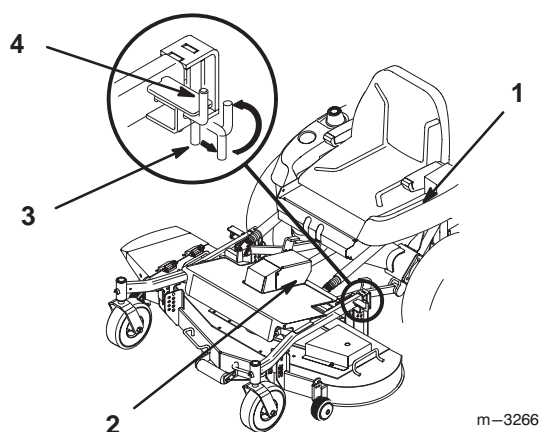
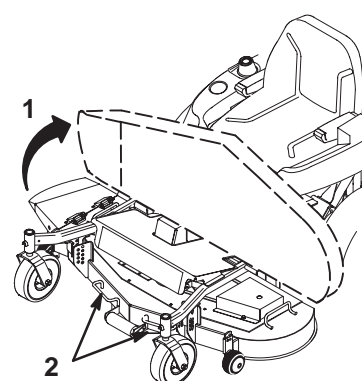

Figure 20
Figure 21
2. Lift on side handle to release weight on latch pin and pull out on latch pin to release (Fig. 20). Lower rear of mower onto anti-scalp rollers. Repeat on the other side.
3. Standing in front of the mower, lift up and push rearward on front handles to raise mower (Fig. 21). Raise mower until it contacts stops and latch pins snap into locked position.
1. Pull out latch pins and rotate into notch to hold in the open position (Fig. 20). Standing in front of the mower, pull forward on front handles and lower mower (Fig. 21).
2. Rotate latch pins into released position and lift on side handles of mower until latch pins engage (Fig. 20). Repeat on the other side.